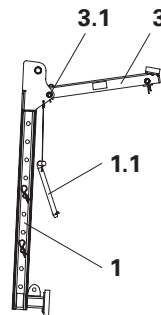
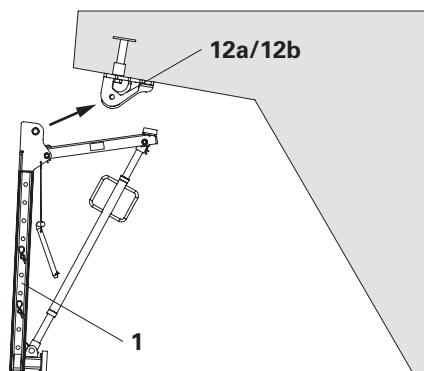
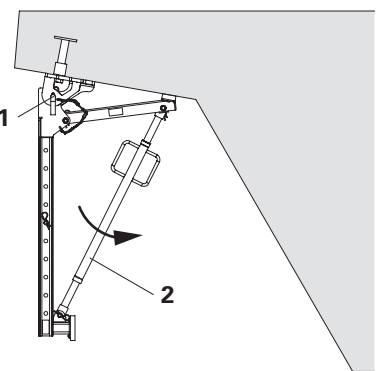

Fig. B1.04
Fig. B1.06
Fig. B1.07
3. Fix Bracket Cantilever VGK 50 (3) to Bracket Post VGK (3.1) using bolts and cotter pins (1). (Fig. B1.04)
4. Attach pre-adjusted Kicker Brace AV (2) to Bracket Cantilever VGK 50 (3) using bolts and cotter pins (3.2).
5. Attach pre-adjusted Kicker Brace AV (2) to the Bracket Post VGK (1) using bolts and cotter pins (2.2).
6. Attach Bracket Unit VGK (1) to Suspension Head VGK (12) and secure by means of locking pins $\varnothing 20 \times 260$ (1.1) and cotter pins 4/1.
7. Vertically align Bracket Unit VGK (1) with Kicker Brace AV (2). (Fig. B1.06 + Fig. B1.07)